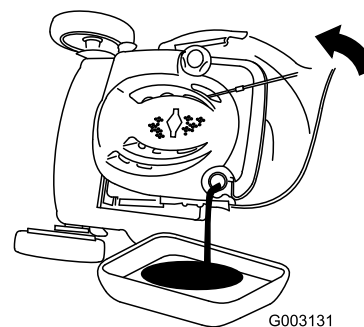

Figure 41
3. Tip the mower onto its side, with the air filter up, to drain the used oil out through the oil fill tube (Figure 41).